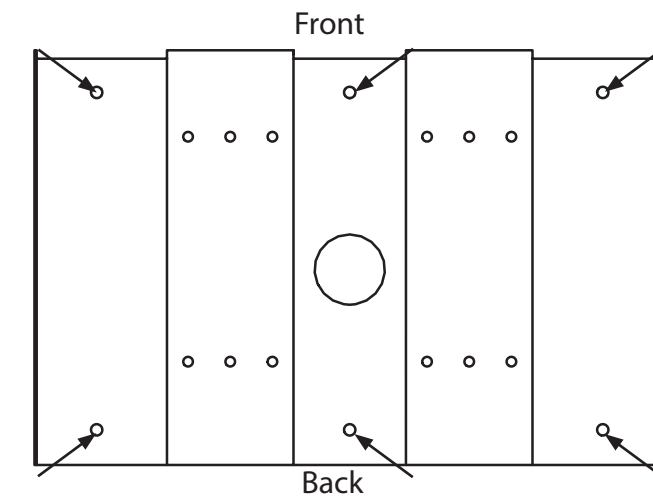

Figure 3: Floor bracket mounting holes
2. Using the floor bracket as a template, trace an opening on the floor for the cutout and mark the 6 floor bracket mounting hole locations as shown in Figure 3.
5. Secure the floor bracket to the floor using 6 bolts through the floor bracket mounting holes shown in Figure 3. The holes are 13/32" (10 mm) in diameter.